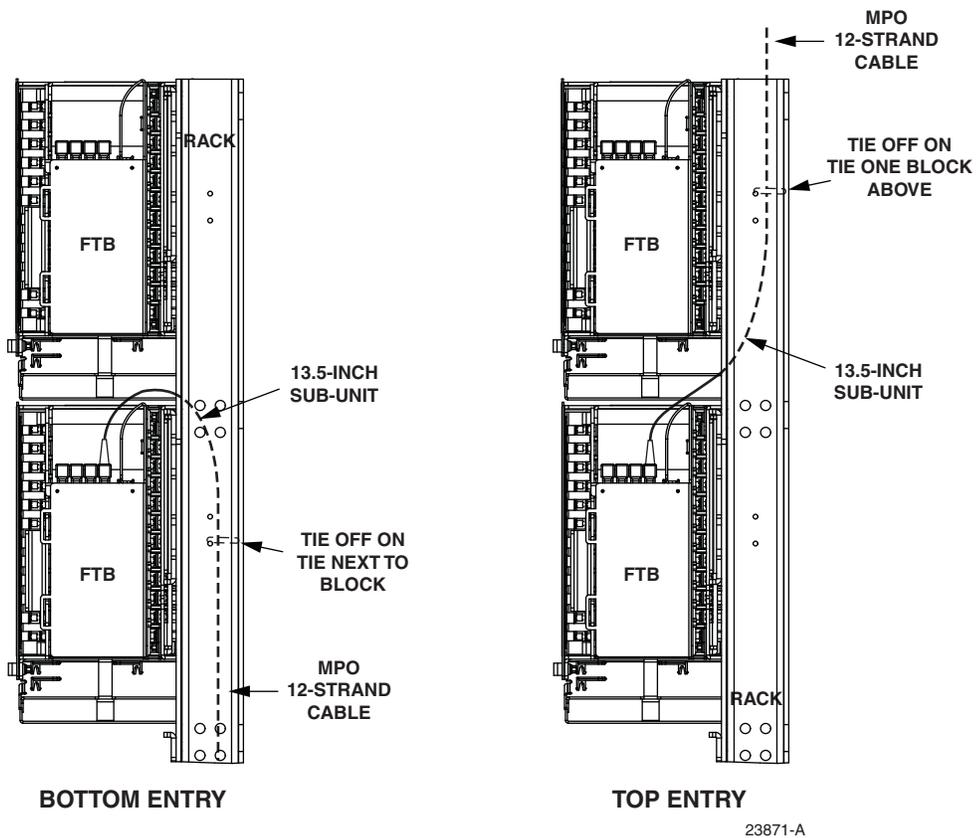

Figure 13. MPO Trunk Cable Routing Into FTB (Rear View)
► **Note:** In a top entry application, tie off the cable on the tie off one block above the block where the cable will be connected, as shown in Figure 13. In a bottom entry application, tie off on the cable on the tie off next to the block where the cable will be connected, as also show in Figure 13.